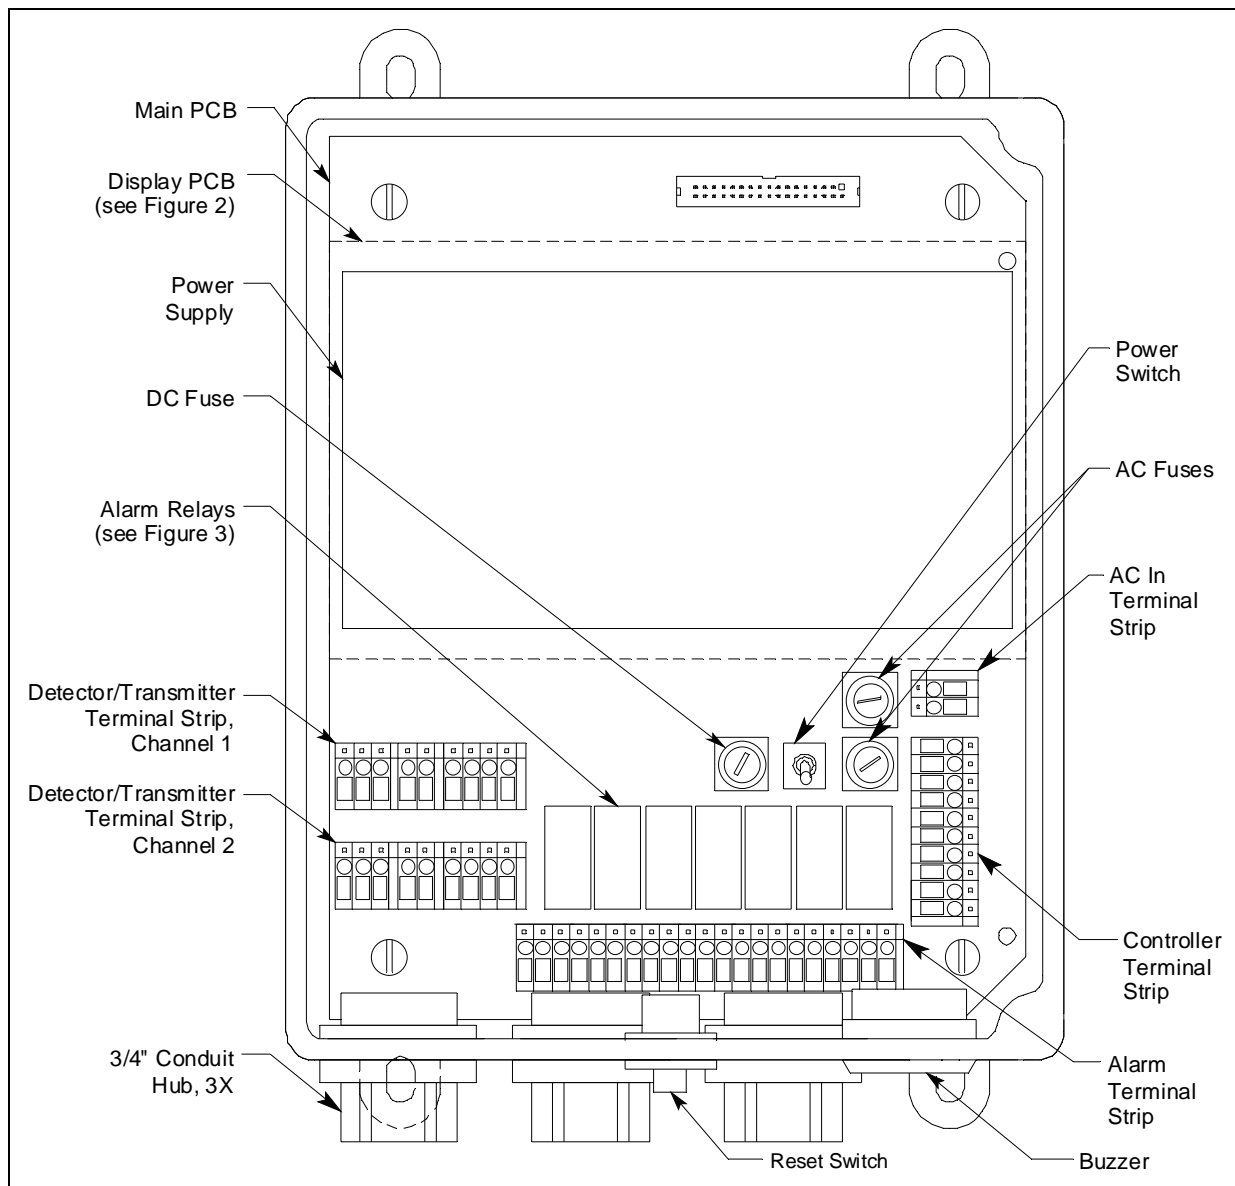

Figure 1: Beacon 200 Gas Monitor Component Location
- **Detector/Transmitter Terminal Strips:** Two detector/transmitter terminal strips are located near the bottom left corner of the main circuit board (see Figure 1). These two 9-point terminal strips facilitate wiring connections to the detectors or transmitters. Although each terminal strip can accommodate several different detector head models, only one detector head at a time may be wired per channel. The top terminal strip is for channel 1 and the bottom terminal strip is for channel 2.
- **Alarm Terminal Strip:** The alarm terminal strip is located along the bottom edge of the main circuit board (see Figure 1). This 21-point terminal strips facilitates wiring connections to external alarm devices (horn, strobe, etc.). Terminals are provided for individual channel as well as common alarm relay contacts.
- **Controller Terminal Strip:** The 10-point controller terminal strip is near the lower right edge of the main circuit board (see Figure 1). The controller terminal strip facilitates various internal and external wiring connections. Table 3 lists the function of each terminal.
- **AC In Terminal Strip:** The AC in terminal strip is a 2-point terminal strip located above the controller terminal strip (see Figure 1). It facilitates wiring from the AC power source. Table 4 lists the function of each terminal.
- **Channel Relays:** The four channel relays are above the alarm terminal strip (see Figure 1). These relays are dedicated to specific channels and alarm levels.
- **Common Relays:** The three common relays, alarm 1, alarm 2, and fail, are to the left of the controller terminal strip (see Figure 1). These relays are common for both channels. For example, the alarm 1 common relay energizes if **either** channel 1 or channel 2 recognizes an alarm 1 condition.
The power switch is located above the relays and in between the AC and DC fuses (see Figure 1). The power switch turns the incoming AC power source on and off at the Beacon 200. When the switch is up, the power switch is on.